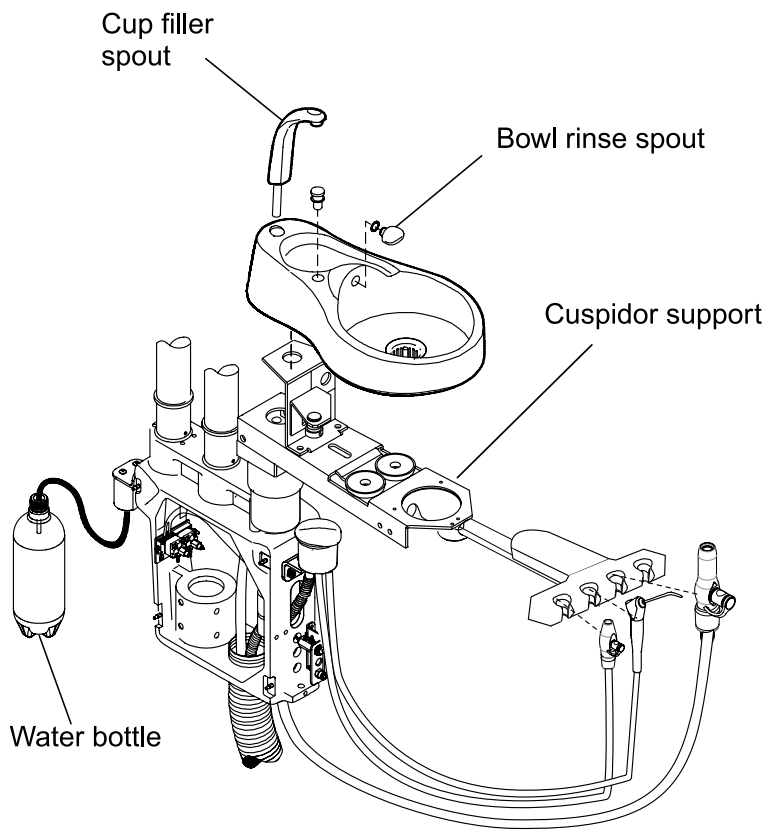

Figure 9
13. Locate the cuspidor bowl (if included) and position it over the cuspidor support as shown in figure 9. Before installing, connect the 1/4" blue tubing from the cuspidor support to the back of the bowl rinse spout. Press the bowl into place over the support, making sure the bowl studs are firmly seated in the grommets. Attach the drain, bowl rinse and cup filler spouts to the bowl assembly. Insert in hole and slightly rotate until fully seated.
14. Locate the fresh water bottle and install it in the quick disconnect on the utility center as shown in figure 9.